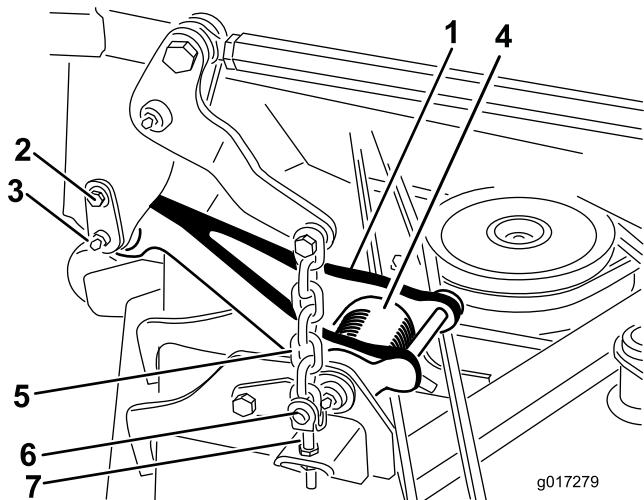

Figure 2
Note: When the mower is in the raised position, the pull link torsion spring tension (Figure 2) is reduced making it much easier to disconnect the pull links from the machine.
2. Disconnect the pull link from each side of the machine (Figure 2).
- A. Remove the shoulder screw that secures the retainer pin to the carrier frame (Figure 2).
- B. Carefully slide the retainer pin from the carrier frame and the pull link (Figure 2).
- Align the pull link to the carrier frame and attach the link with the retainer pin (Figure 2). Secure the retainer pin to the frame with the shoulder screw (Figure 2).
- Install the (4) clevis pins and ring pins to secure the mower lift chains to the adjustment clevises on the mower (Figure 2).